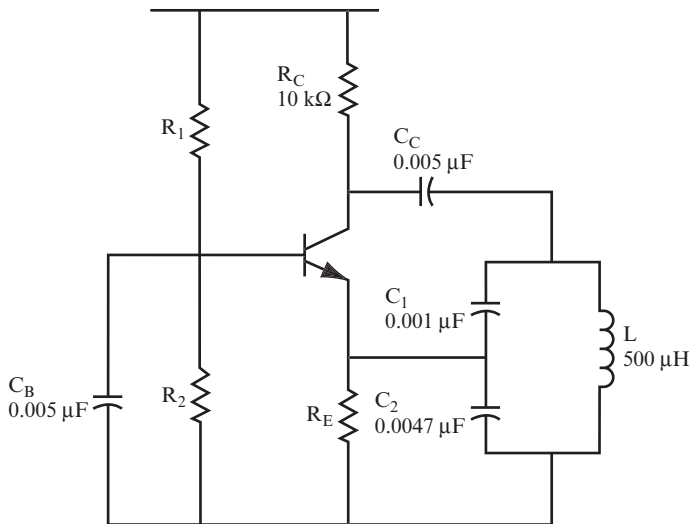

FIGURE 9.38
7. The circuit is shown in Figure 9.38.
34 The circuit you designed in problem 33 is shown in Figure 9.38.
9. For the circuit shown in Figure 9.38, calculate the values of C_1 , C_2 , C_c , and C_b for an oscillator with an output frequency of 10 kHz using a 100 mH coil.